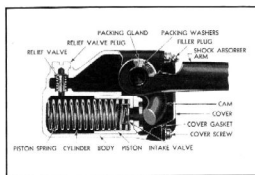

Fig. 4—Single-Acting Shock Absorber
3. Remove the screws which mount the regulator board, and tip the regulator board away from the door. This disengages the regulator from the cam channel, as shown in Fig. 4.
The construction of the single-acting shock absorber is shown in the cross section view, Fig. 4.
The type of single acting shock absorber shown in Fig. 4, with a separately mounted intake valve and relief valve, is used on the front and rear of